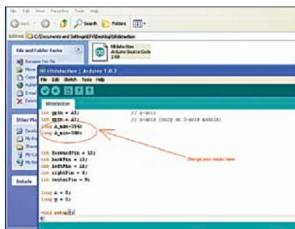

Fig. 7: Screenshot of Arduino Uno programming
4. Put the values for 'A_max' and 'A_min' in the final code as shown in Fig. 7.